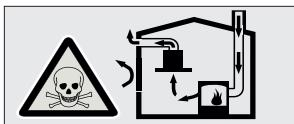

Fig. 2: Poisoning Danger
- Ventilated devices (e.g. gas, oil, wood or coal burning heaters, shower heaters, water heaters) take combustion air from the installation location, and discharge the waste gas through a waste gas system (e.g. flue). When the cooker hood is active, it absorbs air from the kitchen and neighbouring rooms. If adequate air entry is not provided vacuum emerges. In such a case, the toxic gases are absorbed from the flue and waste gas channel, and are taken into the door again. Fig. 2